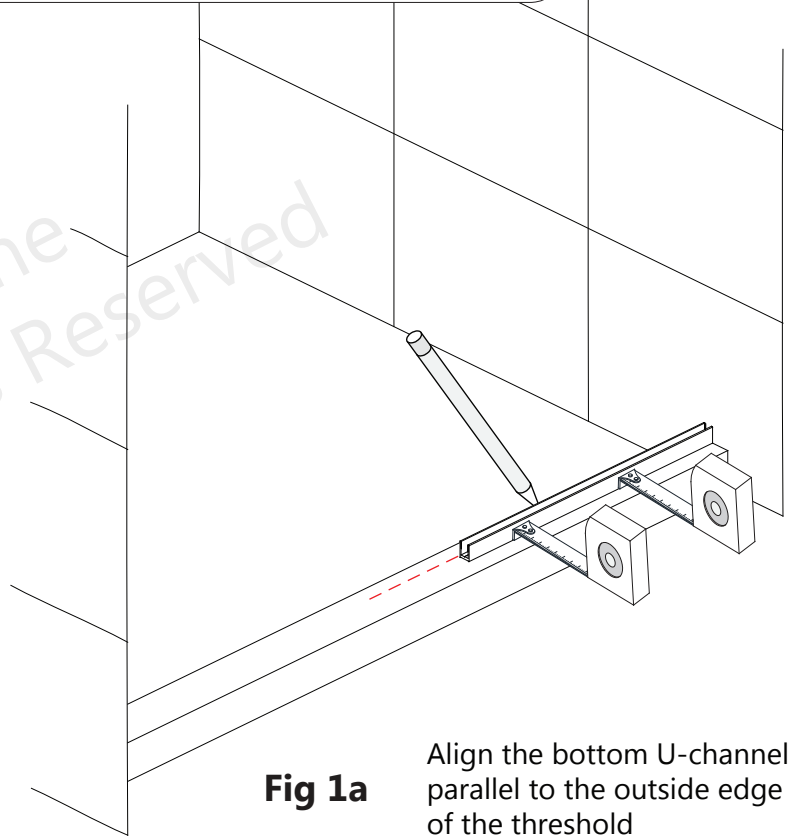
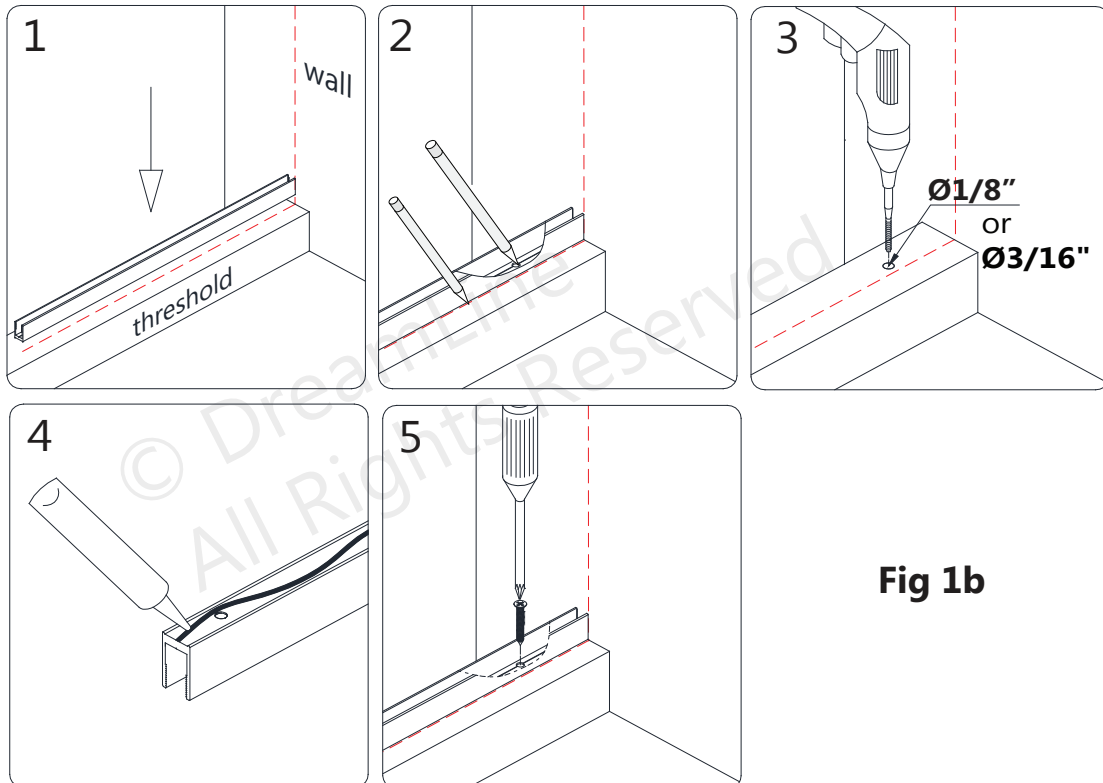

Fig 1a
Fig 1b
• Drill a $\text{Ø}3/16''$ (4mm) hole up to the stud, drill an $\text{Ø}1/8''$ (3mm) pilot hole into the stud. (Fig 1b.3)
• Apply a bead of silicone to the bottom of the **Bottom U-Channel (34") (#29)** and attach it to the threshold using the **ST4.0 x 40 Pan Head Screws (#23)**. (Fig 1a and Fig 1b)